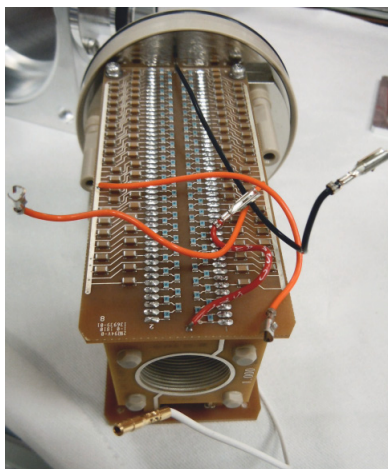

Figure 49 High pressure ion funnel on top of a clean cloth.
- 2 Put the **ion funnel** on the table and on top of a clean lint-free cloth. See Figure 49.